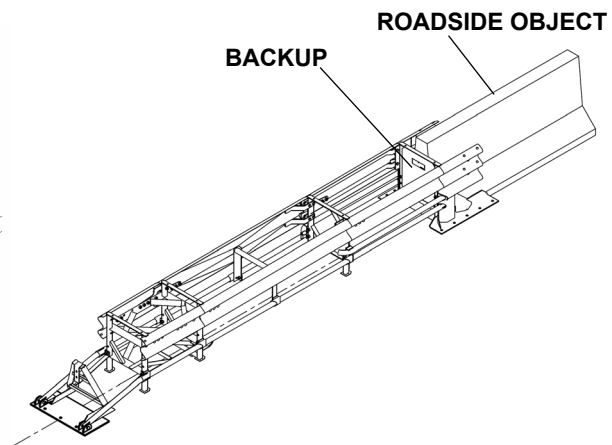

Figure 28
**Note:** The QUEST® Classic system, when properly assembled, appears to be an extension of the object which it is shielding (Figure 28).